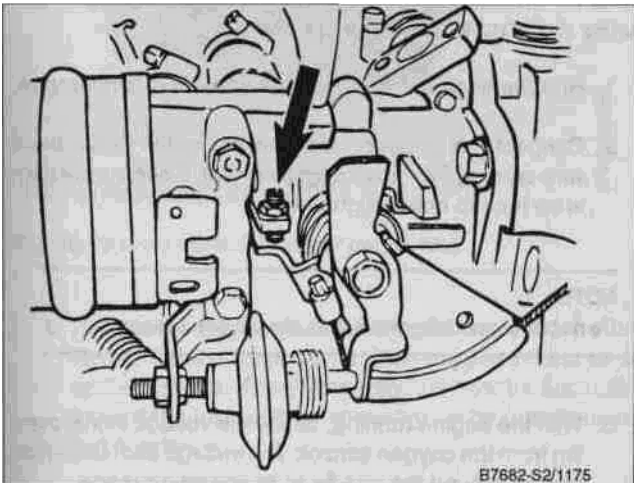
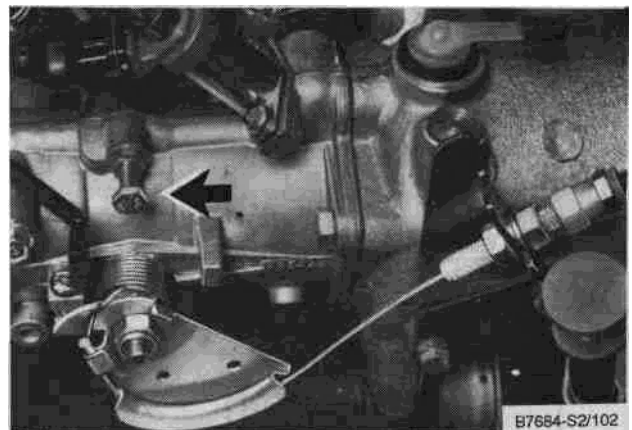

Fig. 32. Throttle stop screw and locknut (arrow).
Fig. 34. Throttle valve air bleed screw (arrow) used on early models. Later models with LH 2.2 do not have this screw.
6. Depending on the throttle housing, turn either the throttle valve stop screw (Fig. 32) or the throttle valve air bleed screw (Fig. 34) out until the duty cycle is 38% (34° dwell).
3. Loosen the throttle stop screw locknut and back out the screw until it is no longer contacting the throttle lever. See Fig. 32. Thread the screw in until it touches the lever then turn it an additional 3/4 turn. Tighten the lock-nut.